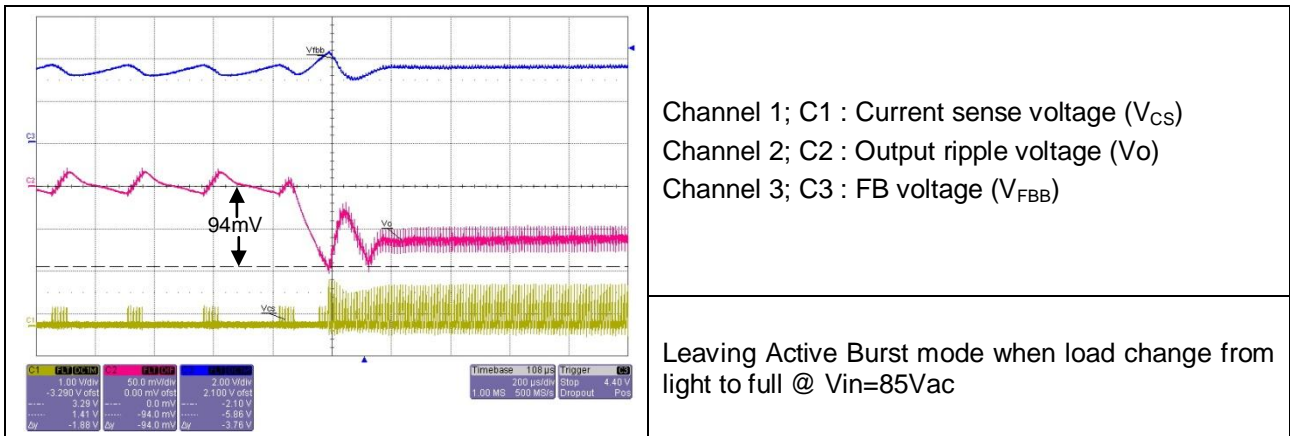

Figure 13 Leaving burst mode waveform
Figure 13 is the captured waveform when there is a load jump from light load to full load. The output ripple drop during the transition is about 94mV.
The maximum power of the system is changed with the input voltage; higher voltage got higher maximum power. This is due to the propagation delay of the IC and the different rise time of the primary current under different input voltage. The propagation delay time is around 200ns. But if the primary current rise time is faster, the maximum power will increase. The power difference can be as high as >14% between high line and low line. In order to make the maximum power control become tight, a propagation delay compensation network is implemented so that the power difference is greatly reduced to best around 2%. Figure 13 shows the compensation scheme of the IC. The equation (8) explains the rate of change of the current sense voltage is directly proportional to the input voltage and current sense resistor. For a DCM operation, the operating range for the dV_{sense}/dt is from 0.1 to 0.7. It can show in Figure 13 that higher dV_{sense}/dt will give more compensation; i.e. lower value of V_{sense} .